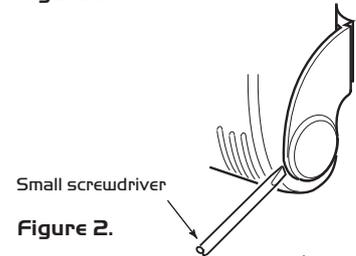

Figure 2.
c) Carefully separate the sensor from the backplate using a small screwdriver (see Fig 2) Note: the sensor will remain connected by its internal cable.